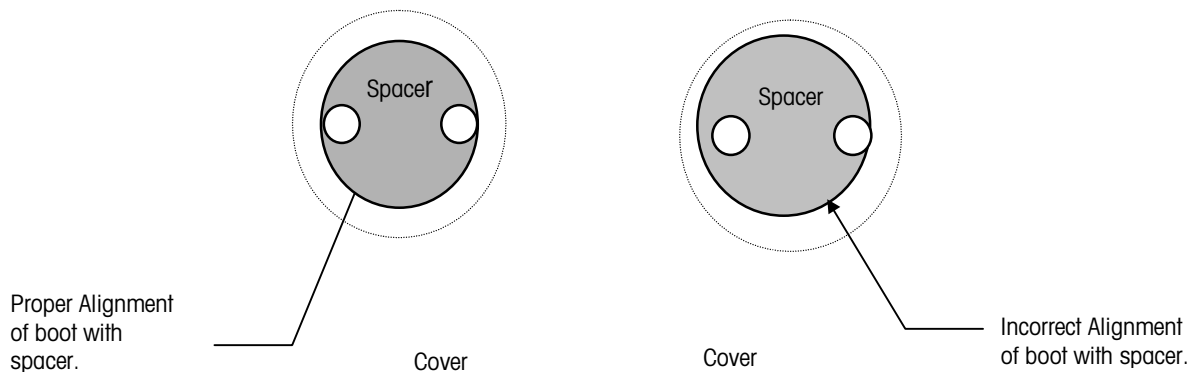

Figure 4-1
- Note the location of spacers and adapter block during removal of the load cell. See figure 4-1.